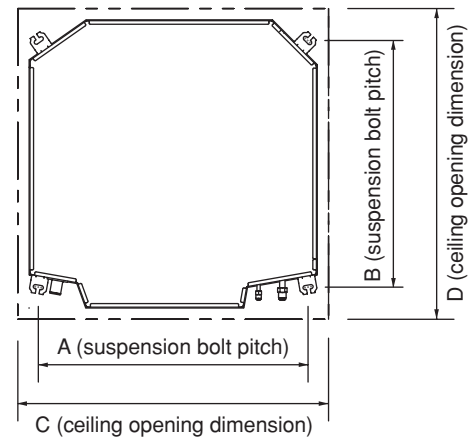

Fig. 3-33
(2) Follow Fig. 3-33 and Table 3-3 to make the holes in the ceiling.